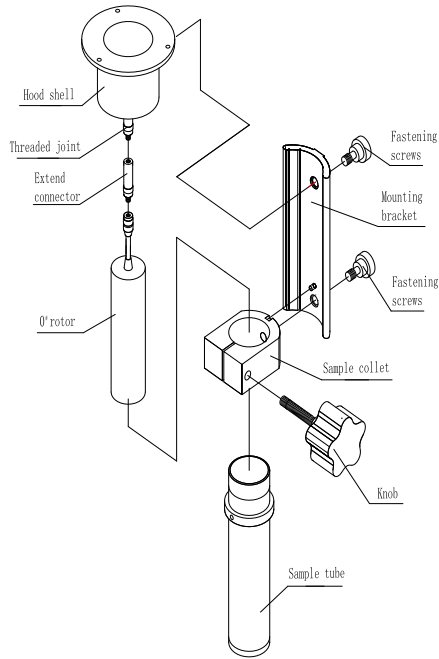

Fig. 5
- 3、 First fix the mounting bracket on the lower housing, then fix the sample cartridge clamp on the lower hole position of the mounting bracket. (As shown in Fig. 5)
- 4、 0 rotor from bottom to top through the sample cartridge clamp, tighten on the threaded joint. (Note that the rotor is screwed clockwise, As shown in Fig. 5)